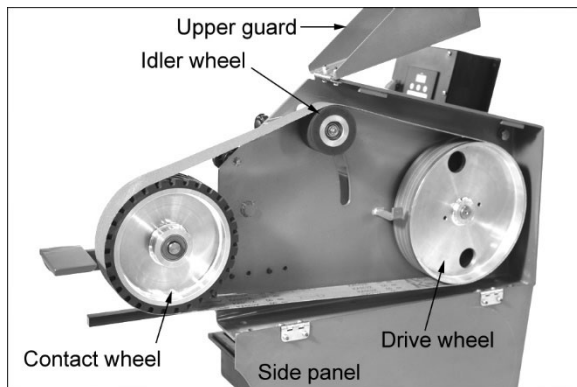

Figure 7-2: belt replacement
2. Loosen knob and raise upper guard (see Figure 7-2). Open side panel by turning its knob and lowering panel on its hinges.